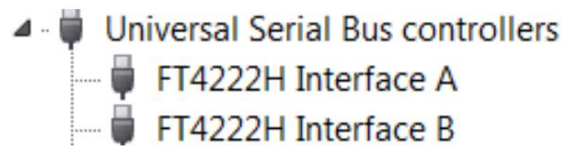

Figure 7 – Device Manager with correct drivers installed
- Now, when opening Device Manager, your device should show FT4222H Interfaces under 'Universal Serial Bus Controllers'; see Figure 7.